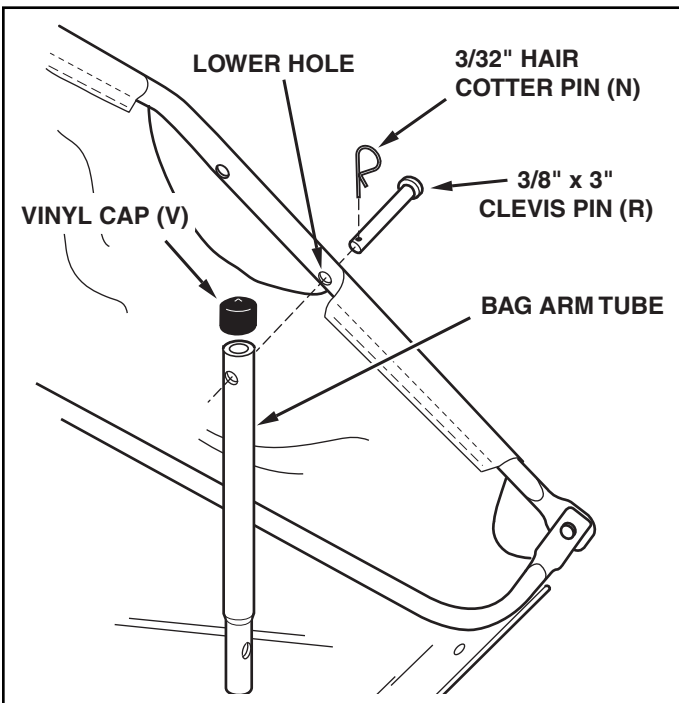

FIGURE 18
STEP 14: (FIGURE 18)
- Insert a 3/8" x 3" clevis pin (R) through the lower hole in each upper hopper side tube. Next assemble a bag arm tube onto each clevis pin and secure it with a 3/32" hair cotter pin (N).
- Assemble a vinyl cap (V) onto the end of each bag arm tube.